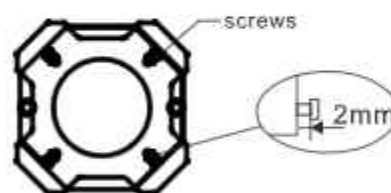

Fig.8
3. Adjust the 4 screws around 2mm height over the mounting bracket as indicated Fig.8